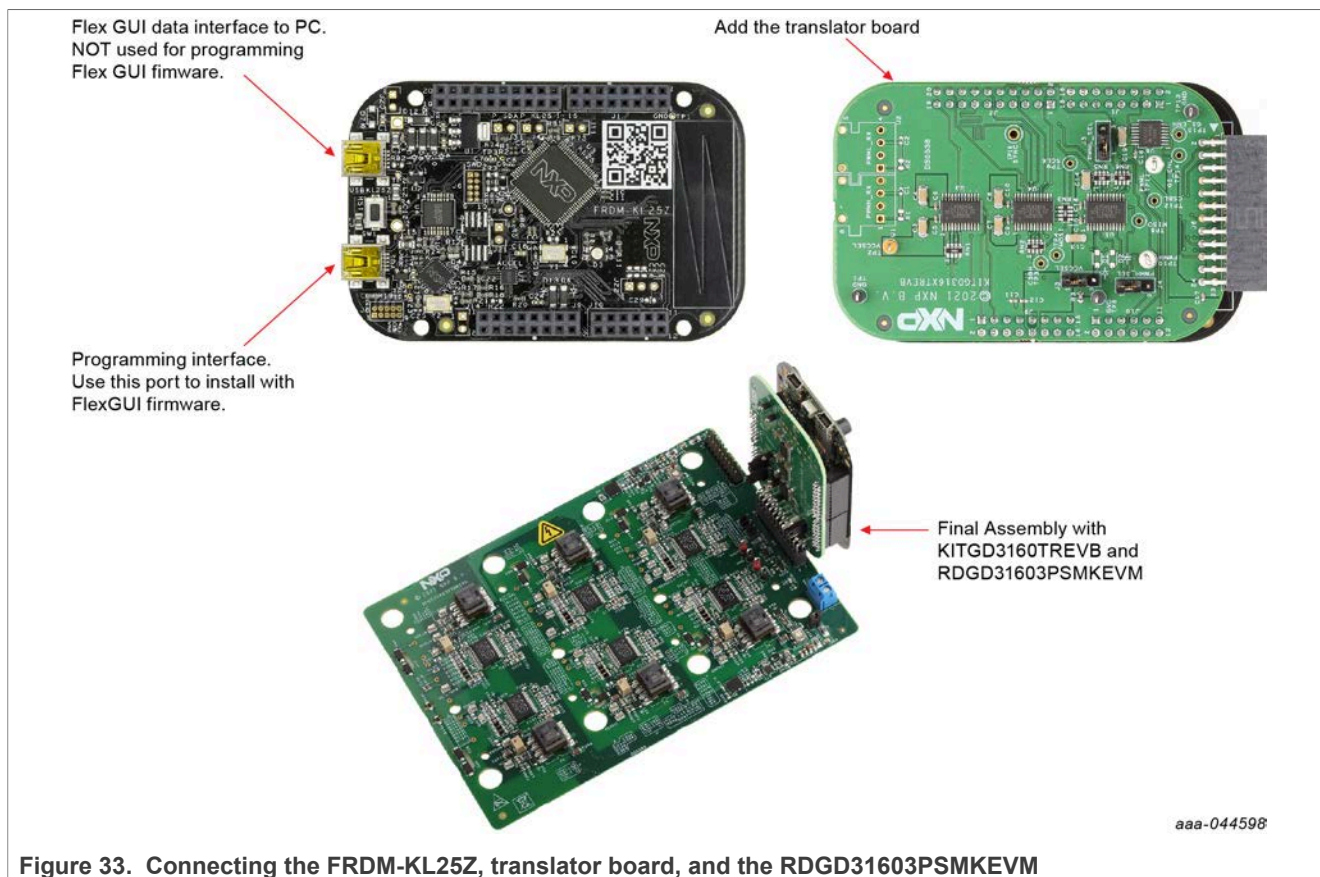

Figure 33. Connecting the FRDM-KL25Z, translator board, and the RDGD31603PSMKEVM
- Assemble the KL25Z microcontroller board, the translator board and the three phase board together, as shown in Figure 33, on the eMPack module.
|          |  |    | Fig. 33. | Connecting the FRDM-KL25Z, translator board, and the RDGD31603PSMKEVM ..... | 34 |